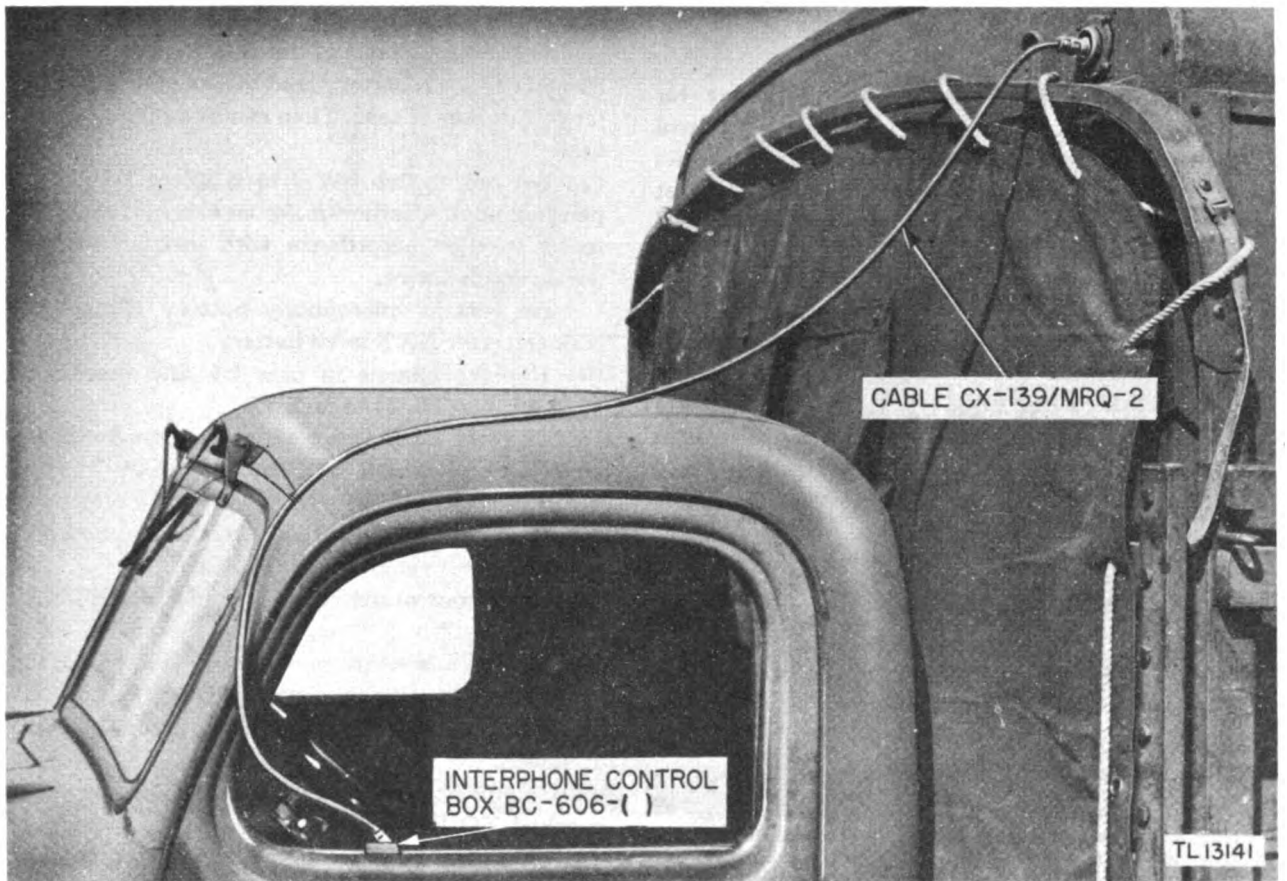

Figure 11. Truck cab showing Interphone Control Box BC-606 ().
g. Interphone Control Box BC-606- (). The interphone box is connected between Radio Set SCR-828-A and the truck cab by means of Cords CX-138/MRQ-2 and CX-139/MRQ-2. Remote operation (fig. 11) of Radio Set SCR-828-A is possible, therefore, while the truck is in motion. For a complete description of Interphone Control Box BC-606- () see TM 11-601.
h. Battery. Storage Battery SAE-8T referred to in paragraph 4d(6) above, is a 12-volt, 168-ampere storage Ordnance battery and supplies power to Radio Set SCR-828-A and to Remote Control Units C-103/TRQ-1.